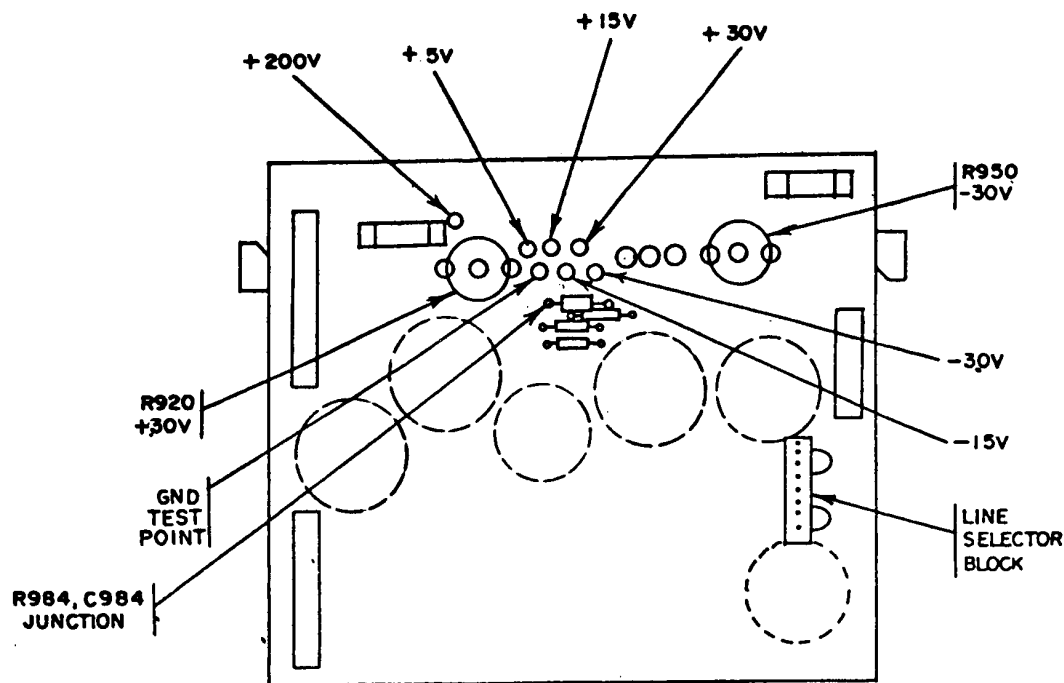

Figure 2. Power supply circuit board (bottom).
- b.** Remove top and bottom protective covers from TI. Insure that line selector block (brown) (fig. 2) for 120 V ac (volts alternating current) operation is installed.
- f.** Position TI controls as listed in (1) through (5) below:
- (1) INTENSITY control ccw (counterclockwise) (off).